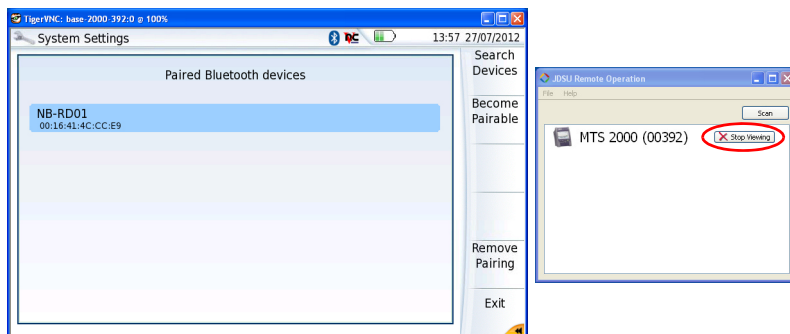

Figure 86 Remote screen on PC
- 1 In the small window available with the VNC window (see Figure 86 on page 152) click on **Stop Viewing** button.